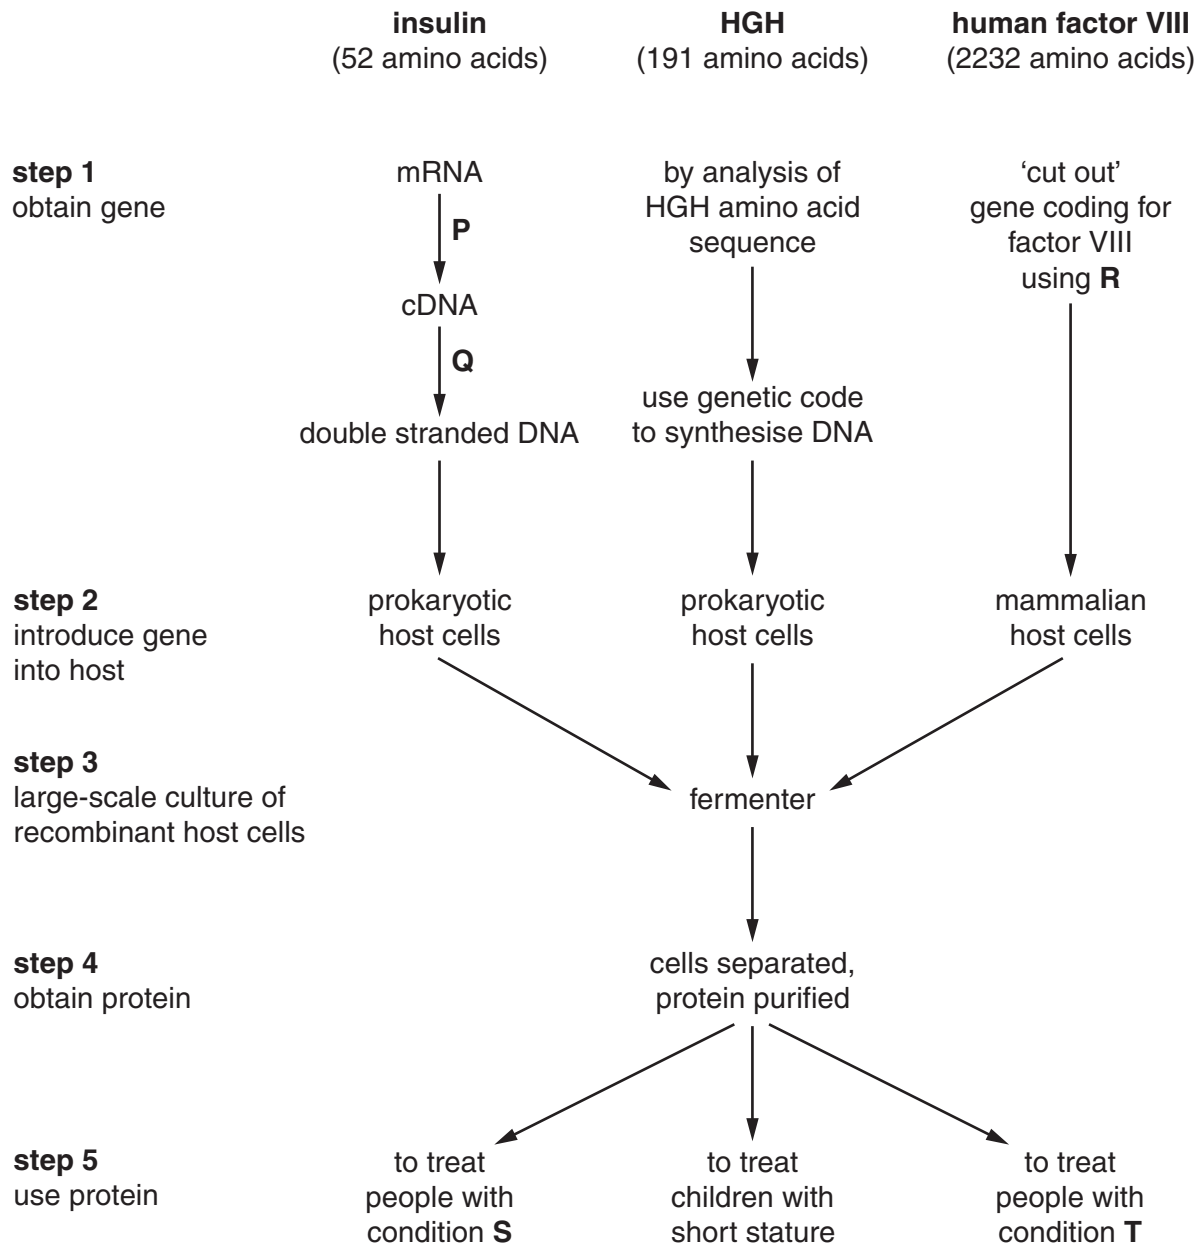

Fig. 5.1
- 5 Fig. 5.1 summarises the large-scale production of three proteins of medical importance, insulin, human growth hormone (HGH) and human factor VIII. **P**, **Q** and **R** are enzymes.
- (a) Name the enzymes **P**, **Q** and **R** in **step 1** of Fig. 5.1.
- (d) Name the conditions, **S** and **T**, in **step 5** of Fig. 5.1.